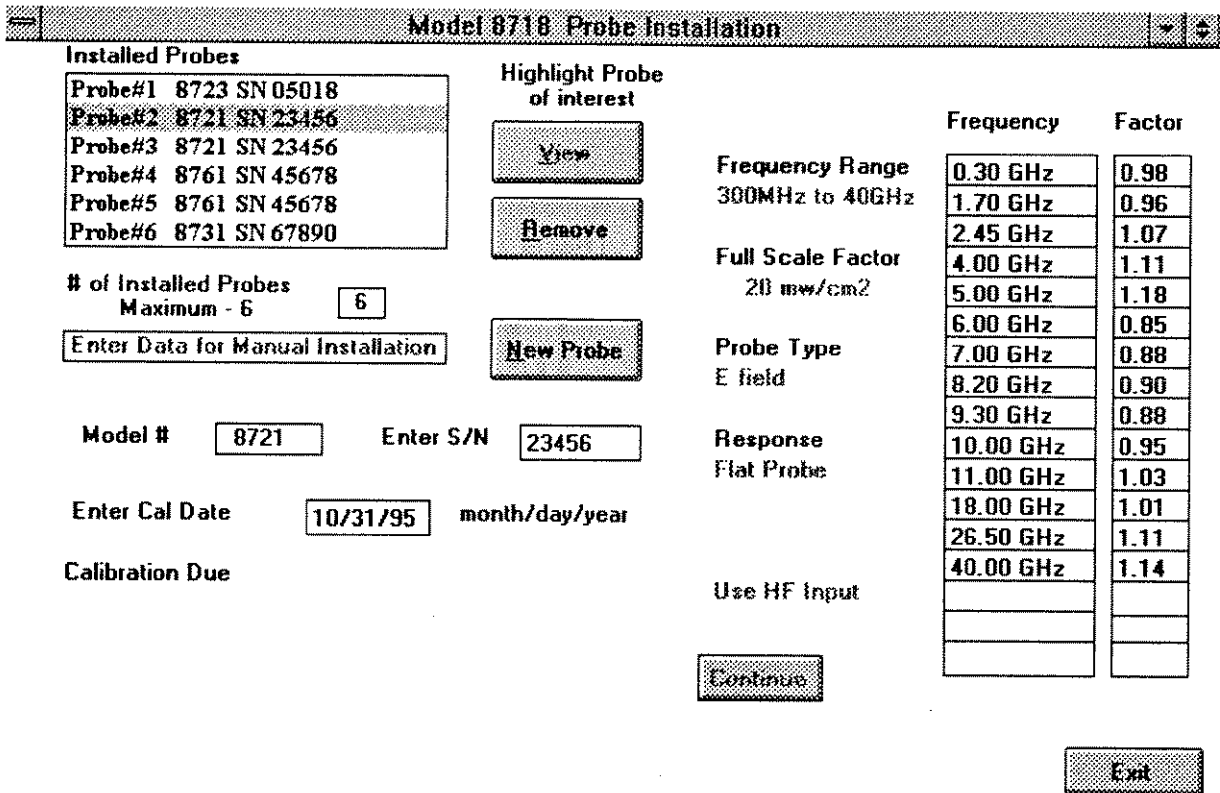

Figure 5-1. Interface Software Probe Installation Window
3. A new window titled **Model 8718 Probe Installation** will appear. See Figure 5-1.